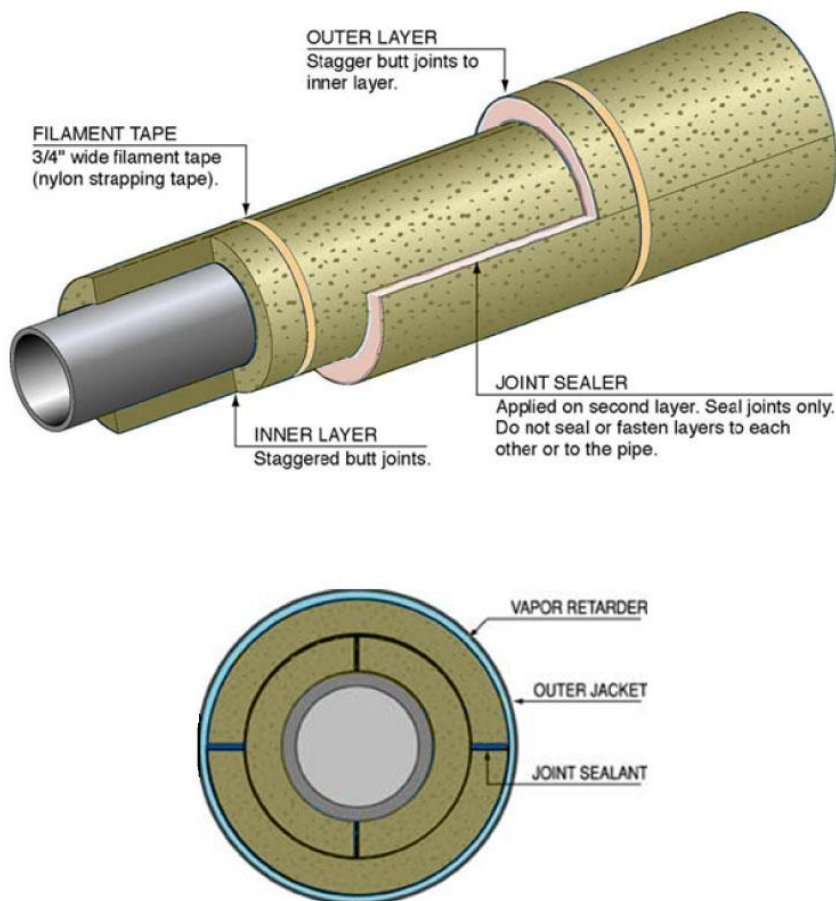

Figure 1
- 4.1.3 Where insulation thickness required is less than 5", utilize a double layer system. Stagger all longitudinal joints between the inner and outer layers. Install the inner and outer layer longitudinal joints 90° to each other with the inner layer joints in the 12 and 6 o'clock positions and the outer layer joints in the 3 and 9 o'clock positions. All butt joints between the inner and outer layers shall be staggered between 6 and 18 inches. Refer to Figure 1 in Appendix B.
- 4.1.8 In double layer insulation system, inner layer shall not be installed with sealants. In double layer systems, the inner and outer layer shall remain independent of each other to allow movement between the layers. Refer to Figure 1 in appendix B.